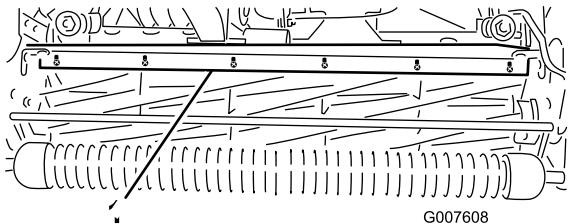

Figure 56
1. Loosen the screws securing the top bar (Figure 56) to the cutting unit.